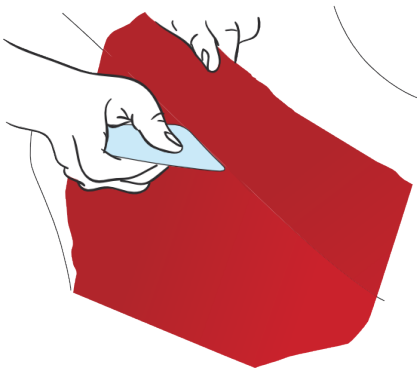

Figure 36
- ▶ Shape the film with your finger on the part's contours. Lift the film of the adjacent part and drag it into the hollow using a squeegee so as to shape the joint edge. (FIG. 36)